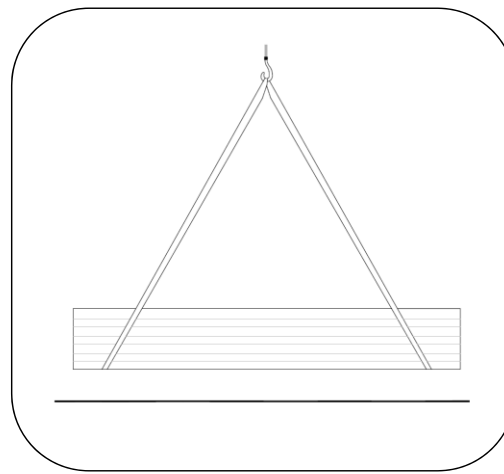

Fig. 2 – Crane install – strap locations, solid unit
1. Set in place with proper equipment such as a crane. See Fig. 2.